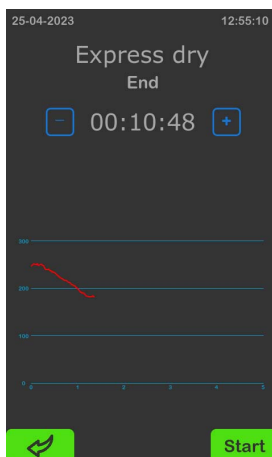

Figure 33
- Connect the hose from the MS900A module to the **filter outlet**. Activate the drying mode and start the process by pressing the **"Start"** button (see Fig. 33). The process can be interrupted or extended at any time using the **"+"** and **"-"** buttons located near the timer.